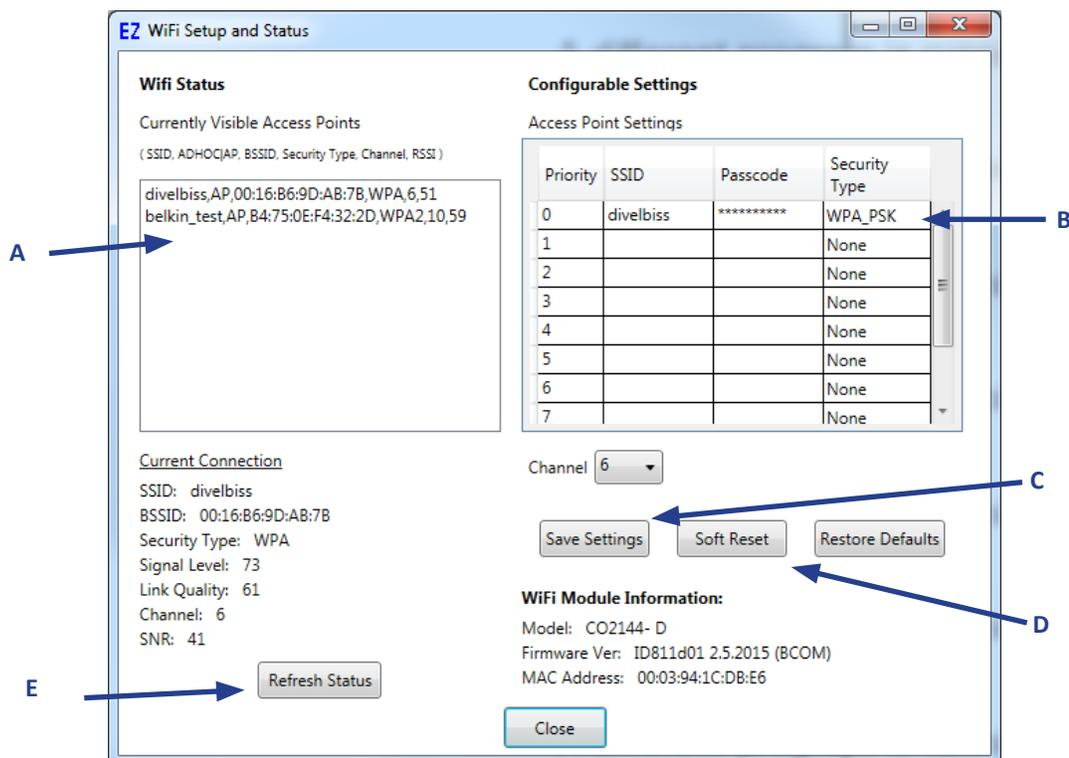

Figure 2-17 - WiFi Setup and Status
5. The **WiFi Setup and Status** window will open. An intermediate temporary dialog may be seen while the Wi-Fi module is accessed and the current Wi-Fi setup read. Refer to Figure 2-17.
6. Referring to Figure 2-17, the *Currently Visible Access Points* (item A) pane shows all the networks currently in-range for the Wi-Fi to detect. **The network must be in-range to be configured.**
7. In the Access Points Settings, enter the **SSID** and **Passcode** in their respective places (item B). It will be necessary to double-click to enter the values. Refer to Figure 2-17.
Multiple Wi-Fi networks may be saved by adding them to list shown in Figure 2-17. Each setting is stored in the on-board Wi-Fi module and is maintained during a power loss. The priority of Wi-Fi network to connect to is based on the priority number in the list.